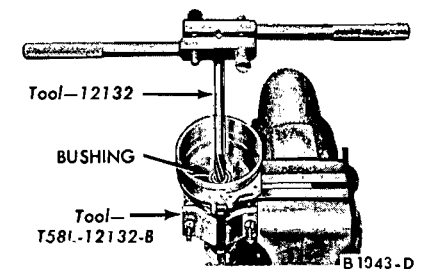

FIG. 15—Burnishing Bushing
2. Burn the bushing to the proper size (Fig. 15).